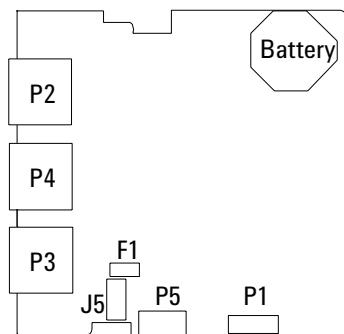
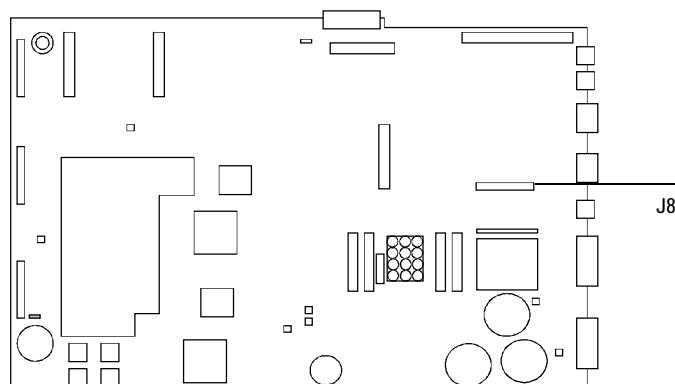
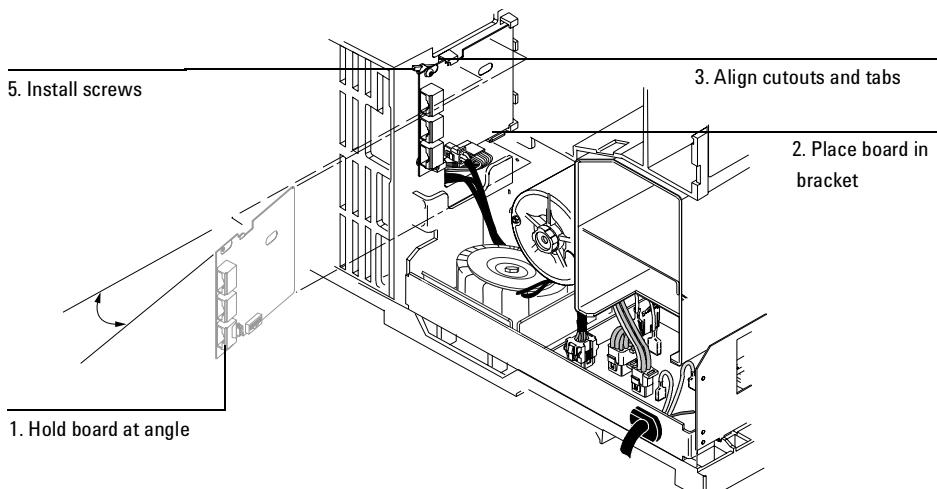

Figure 430-16 ALS Interface board connectors
Figure 430-17 GC Main board
Figure 430-18 Install the ALS Interface board
3. Disconnect the 6890 Controller PCB Cable, part no. G2612-60510, from the ALS Interface board at P5. See Figure 430-16 and Figure 430-17. If you are replacing this cable, disconnect it from the main board at J8.
4. Remove the two screws that secure the board to the chassis. See Figure 430-18.
5. Gently pull the board out of the GC until the cutouts in the board line up with the locking tabs in the bracket. Tilt the board away from the GC until clear of the tabs, then remove. See Figure 430-18.
1. Hold the board upright and slightly angled as shown in Figure 430-18.
5. Secure the board to the chassis using the two mounting screws. The board should not be stressed or bowed against the locking tab. See Figure 430-18.
6. Locate the 2-wire cable leading from the transformer and connect it to the ALS Interface board at J5. See Figure 430-18 and Figure 430-16.
7. Connect the 6890 Controller PCB Cable, part no. G2612-60510, to the ALS Interface board at P5. If replacing the cable, route the new cable through the cutout in the main board and connect it to J8. See Figure 430-16 and Figure 430-17.